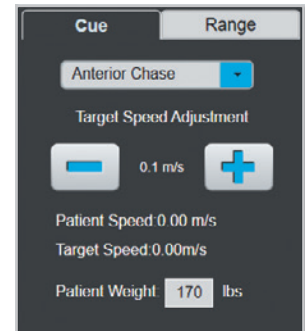

Figure 6-4:
4. Set the target speed by pressing the plus (+) and minus (-) buttons. See Figure 6-4.